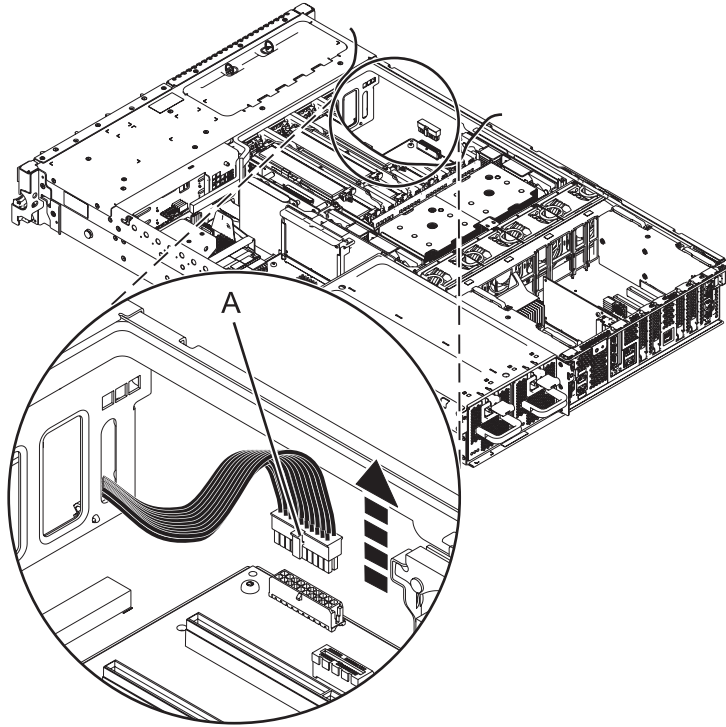

Figure 45. Removing the front fan cable
23. Remove the front fan cable. See Figure 45 on page 57.